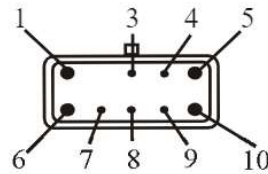

Figure 40
- A scanner can be used to observe the OPEN/CLOSED state of the C1/T41, C2/T42, C3/T3 and the C4/T1 circuits. This can be especially helpful in determining which exact circuit is malfunctioning. Refer to Figure 40 for the OPEN/CLOSED status chart and circuit identification.